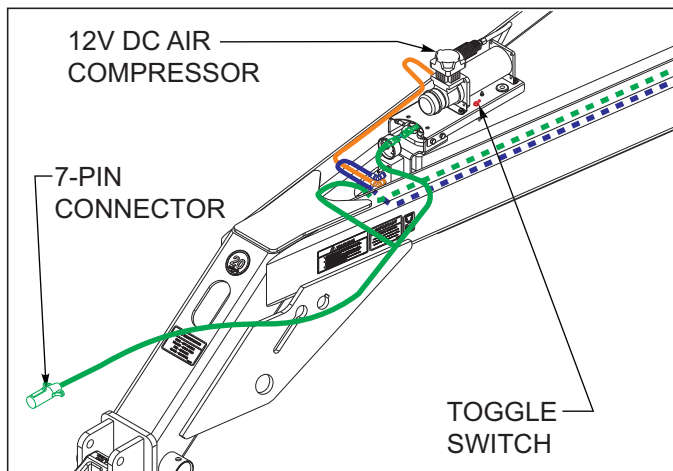

Figure 4-6: Air Compressor Connection
2. Power to the electric air compressor is supplied through the main lighting harness *See Figure 4-6*. Connect the seven pin connector to the tractor. It is recommended that the tractor be running while operating the compressor to insure full system voltage to the compressor. A toggle switch is located next to the compressor to turn the compressor on and off. A pressure switch will automatically turn off the air compressor off when maximum system pressure has been reached.